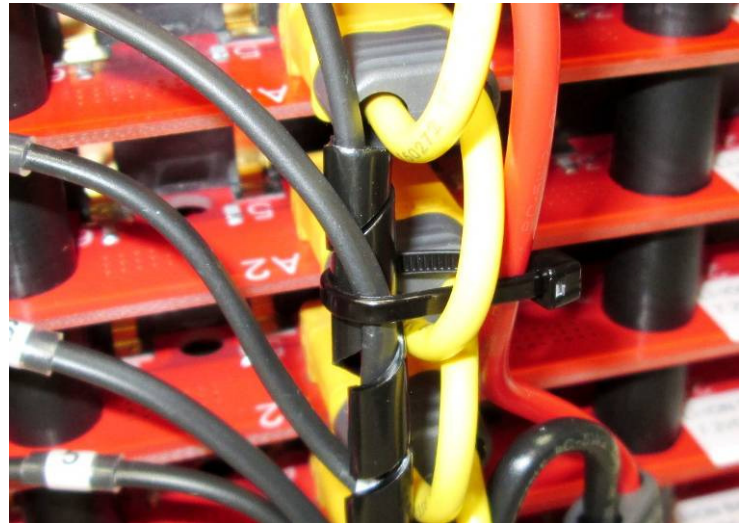

Figure 16
8. Secure the wire harnesses with cable ties in four places, with the tie loop behind the yellow wire harness, as shown in (Figure 16)